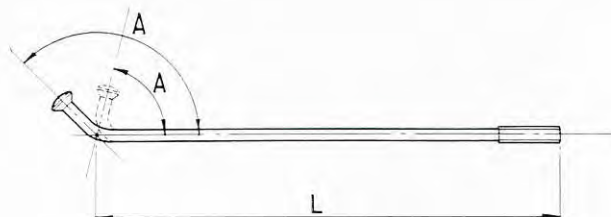

FIG. 2. Measurement of spoke length.
The length of a spoke (L) is ascertained by measuring from the threaded end to the intersection of the two centre-lines (as in Fig. 2). This method applies whatever angle (A) may be.